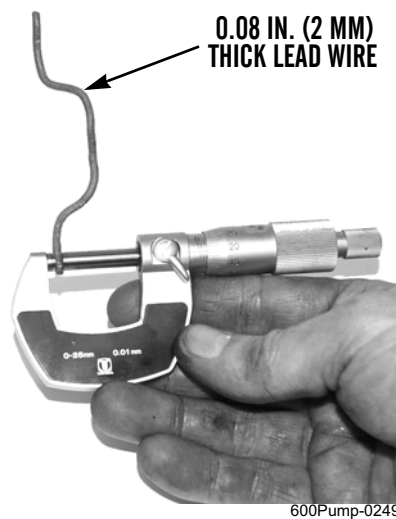

Figure 5. Measuring Lead Wire.
6. Use a micrometer to measure lead wire at thinnest point on both ends (Figure 5). Record measurements. Add measurements, then divide by 2 to obtain mean value which is piston crown clearance.